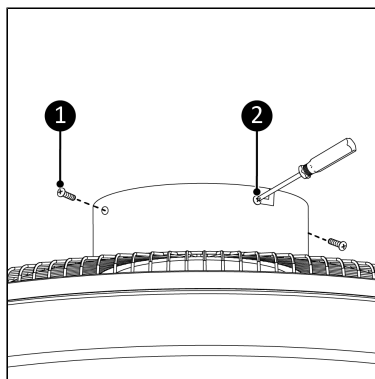

Figure 25.
11. Place and tighten the two screws into the round holes of the fan housing and the mounting bracket (Figure 25, pos 1).
12. Now tighten the two screws of the L-shaped slot holes (Figure 25, pos. 2).